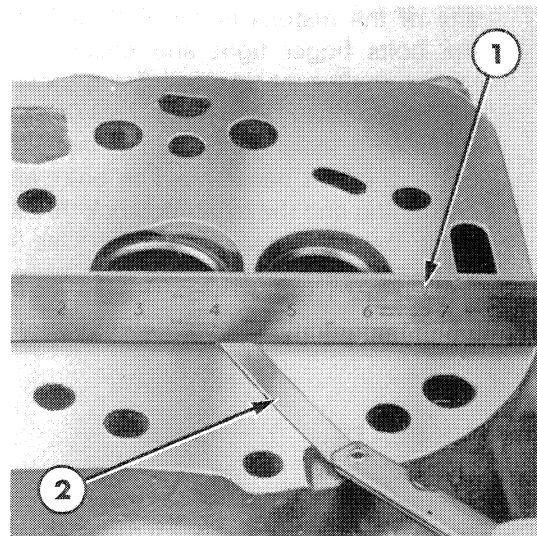

Figure 11
3. Use a straight edge to check the flatness of the cylinder head in all directions, Figure 11. For flatness requirement see "Specifications" — Chapter 4.